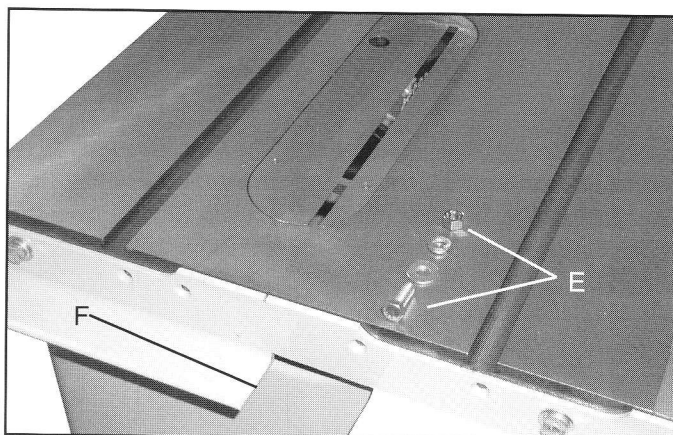

Fig. 9
**For Delta Contractor's Saws** Fasten rail to the saw using the two 3/8-24 x 1-1/4" hex head screws, lock washers, flat washers and hex nuts (E) supplied Fig. 9. The lock washer, flat washer and hex nut will be on the inside edge of the saw table.
4. After fastening the rear rail to the saw table, tilt the saw blade to make certain there is no interference between the guard splitter and the rear rail. If there is, it will be necessary to enlarge the cut-out (F) in the rear rail.